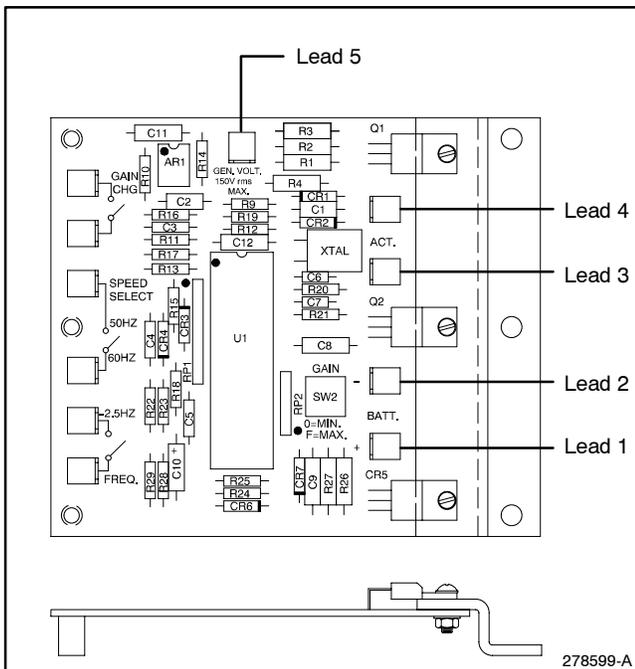

Figure 1 Governor Control Board 254902
Compare the existing governor with Figure 1 to verify that the generator set is equipped with the 254902 governor board before proceeding.
- Before disconnecting the old control board, label the leads 1-5 as shown in Figure 1 so that they can be easily reconnected to the new governor controller. Leads 1 and 2 are the battery connection, leads 3 and 4 are the actuator connection, and lead 5 is the voltage connection.